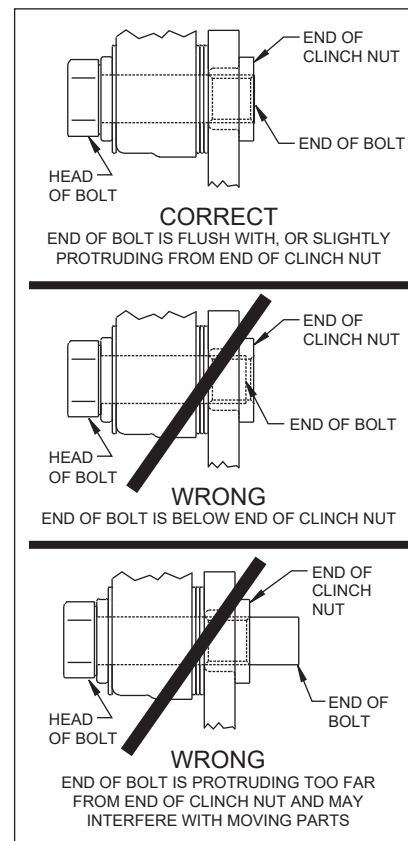

Figure 3.
- Install the dust cap (16) onto the hub (7). Friction created by the o-ring (17) on the dust cap (16) keeps it from unscrewing. The O.D. of the existing spindle washer may be larger than the I.D. of the dust cap (16) which may allow the washer to contact the dust cap (16). Use the spindle washer (15) supplied with the kit instead of the stock washer.
•**NOTE:** Please reference the caution statement at the beginning of the assembly instructions. This kit contains distinct right and left hand calipers that must be mounted in a specific direction, as described below. Mount the caliper (18) onto the caliper bracket (1) using two bolts (20), two washers (19) and four flat washers (21). Finger tighten. Ensure that the caliper is mounted so that the largest pistons are at the rotor exit end of the caliper, in relation to the direction of rotor rotation. View the rotor (11) through the top of the caliper (18). The rotor (11) should be aligned in the center of the caliper (18). If not, loosen the two bolts (20) and adjust the caliper (18) by using 0.032 inch thick shim washers (22). The shim washers (22) should be placed between the caliper (18) and the flat washers (21). Finger tighten and recheck alignment. Add as many shim washers (22) as necessary to achieve the correct alignment. **NOTE:** The end of the bolt must be flush with or slightly protruding from the head of the clinch nut. See Figure 3. Place spare shims (22) between washer and caliper mounting ear to achieve the proper mounting fastener configuration. Always use the same amount of shims on both the top and bottom caliper mounting bolts (20). Once the caliper alignment and clinch nut engagement are correct, remove the mounting bolts and caliper.